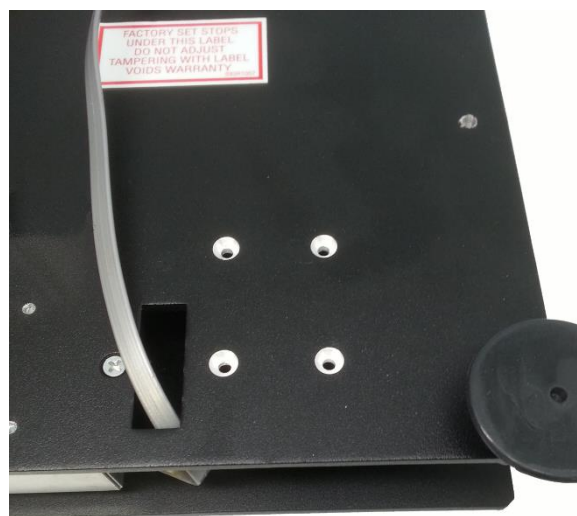

Figure No. 3
2. Locate the four (4) holes next to the opening and position the option card so the threaded standoffs are below the holes. Refer to Figure No. 3.
3. Insert one (1) of the included 6-32x.375" Flat Head Machine Screws and loosely tighten.
4. Repeat Step 3 with the remaining three (3) screws.